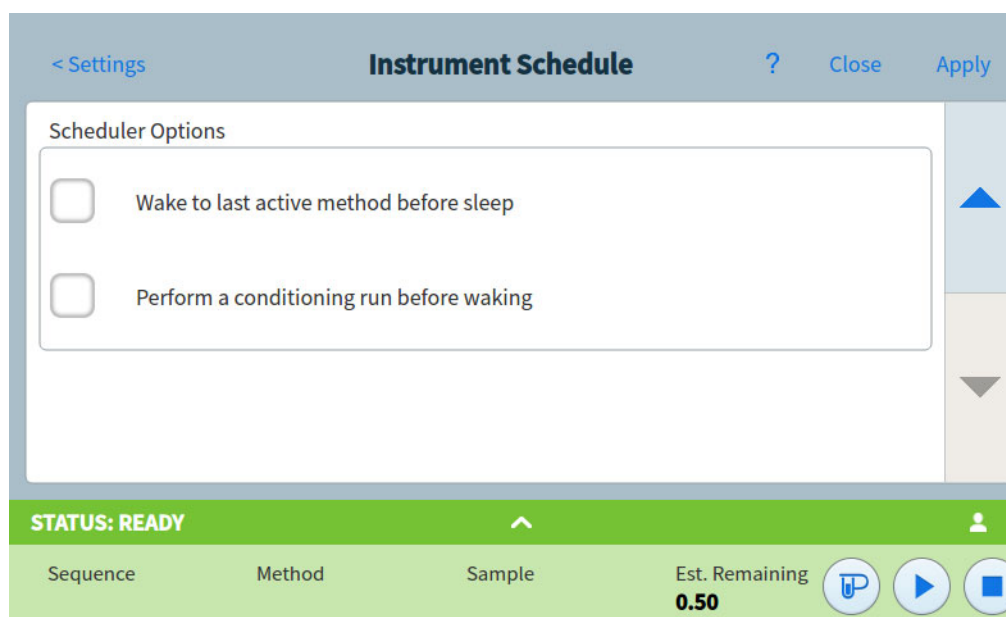

Figure 68. Scheduler Options area
- 3 Scroll to the Scheduler Options area. See **Figure 68**.